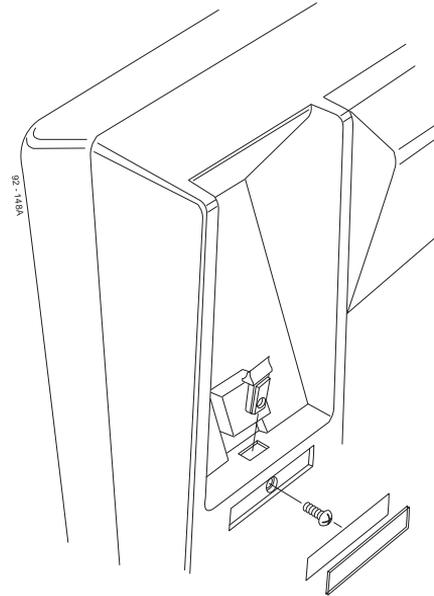

Figure 4-26 INSTALLING THE WALL-MOUNT HANGER
Installing the Wall-Mount Handset Hanger For 926xx Series Phones (Figure 4-26)
1. *Two different types of handset hangers may be included in your kit. To ensure that you are using the correct hanger, refer to Figure 4-26.* Insert the handset hanger in the slot provided beneath the telephone's hookswitch.